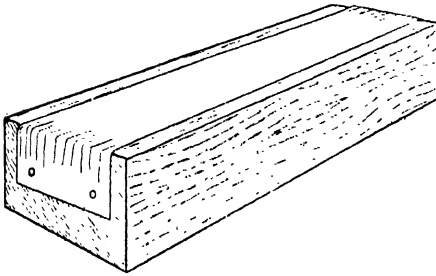

Fig. 489.—Zinc and Emery "Oilstone."
**Quick-cutting Oilstone.**—To put an edge on a chisel or a plane iron on the common type of stone is a work of time and patience, and to get rid of a small gap generally means the use of the grindstone. The quick-cutting "stone" shown in Fig. 489 can be made by anyone at a very small expenditure of time and money. Take a block of wood about the size of the wooden case of an oilstone. Nail to one end of the block a strip of ordinary roofing zinc about 2 in. or  $2\frac{1}{2}$  in. wide. Bend the zinc over the face of the block, as shown, tighten, and nail down at the other end. It should be used as an ordinary oilstone, placing oil and emery powder on the zinc. This reduces to a minimum the trouble of sharpening tools. The edge obtained is quite fine enough for soft woods; for the harder kinds, it is advisable to finish off on an ordinary oilstone.